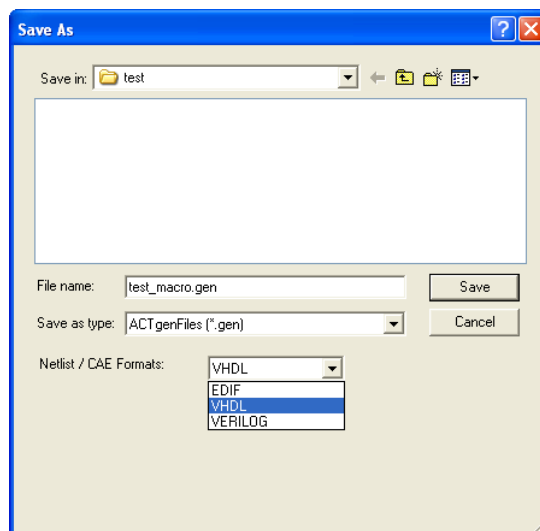

Figure 8 • Saving the I/O Macro Netlist
6. Once the desired configuration is selected, click the **Generate** button. The **Save As** window opens (Figure 8).